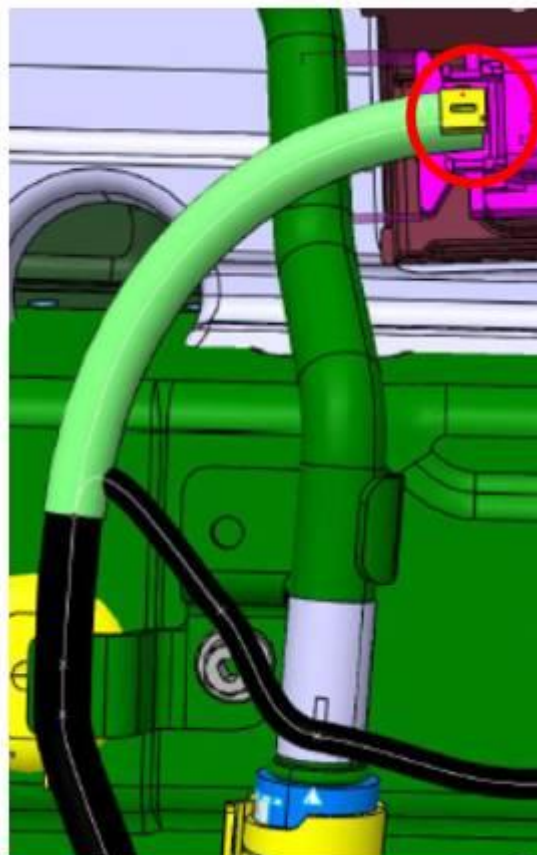

Figure 3. Secure the cable tie.
8. Secure cable tie N 106 232 01 around wiring harness and connector so that wiring harness is pulled upward (see red circle in Figure 3).